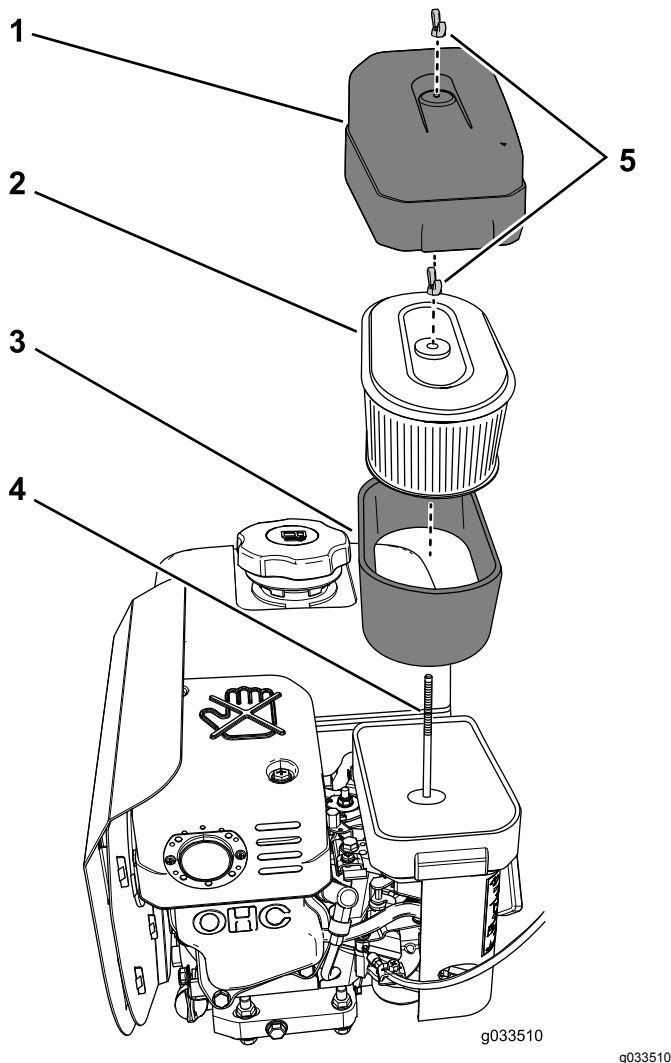

Figure 11
2. Clean around the air cleaner to prevent dirt from getting into the engine and causing damage (Figure 11).
4. Rotate the wing nut that secures the paper and foam-filter elements counterclockwise and remove the filter elements from the hold-down rod (Figure 11).
5. Carefully pull the foam element off the paper element (Figure 11).
1. Inspect the element for tears, an oily film, or damaged (Figure 11).
1. Carefully slide the foam-filter element onto the paper-filter element (Figure 11).
2. Align the hole in the top plate of the paper-filter element with the hold-down rod of the carburetor (Figure 11).
3. Secure the filter elements to the carburetor with the wing nut (Figure 11) that you removed in step 4 of Removing the Foam and Paper Elements \(page 11\).
4. Align the hole in the air-cleaner cover with the hold-down rod (Figure 11) and secure the cover to the rod with the wing nut that you removed in step 3 of Removing the Foam and Paper Elements \(page 11\).
3. Rotate the wing nut that secures the air-cleaner cover counterclockwise and remove the air-cleaner cover (Figure 11).